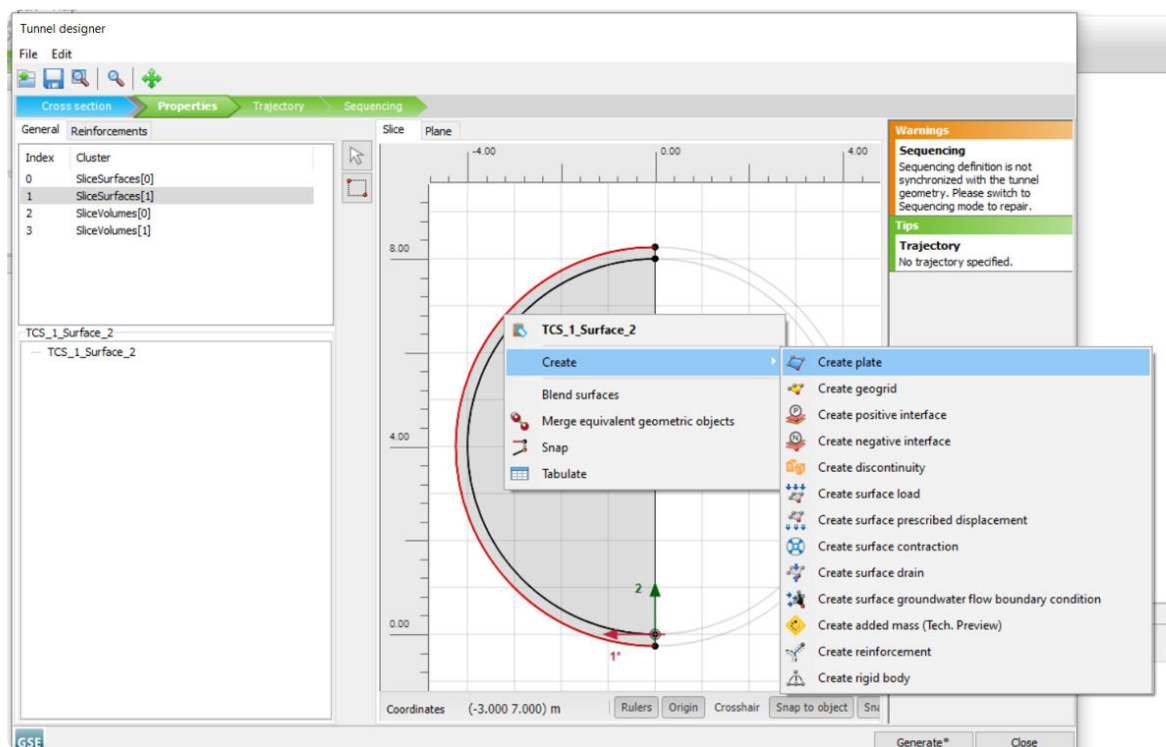

Figure 64: The Properties tabsheet of the Tunnel designer for the creation of a Plate
- In the cross section inside the **Slice** tab, right-click on the outer surface and from the appearing menu select **Create > Create plate** (see Figure 64 (on page 90)).